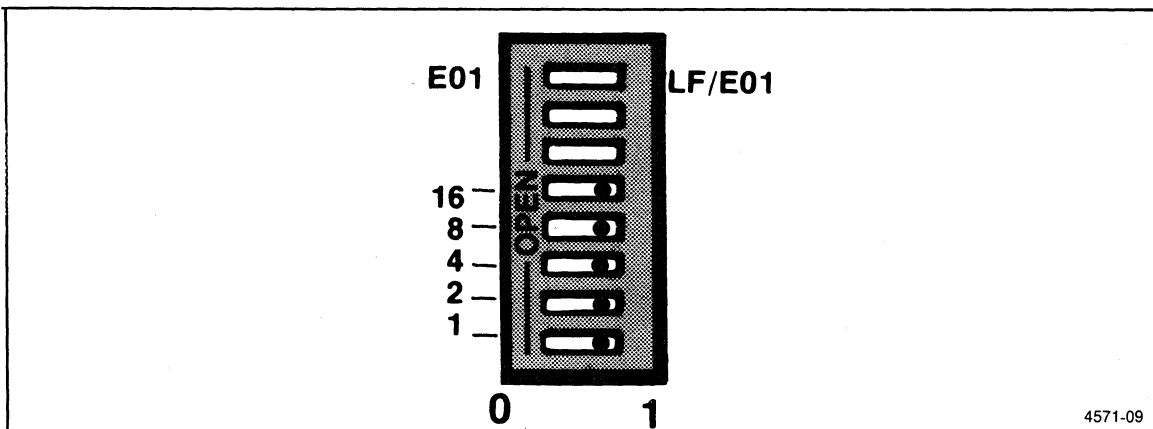

Figure 5-2. DAS rear panel GPIB Address Switch set to 31.
7. Change the setting of the DIP switch on the back panel of the DAS mainframe to Address 31 as shown in Figure 5-2.
14. Set the GPIB address on the back of the DAS to 31 (off line), as shown in Figure 5-2.